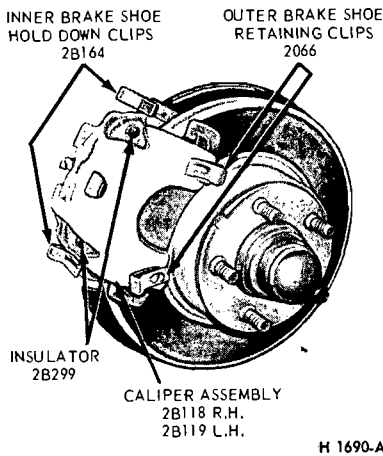

FIG. 1 Disc Brake Assembly— Floating Caliper
The disc brake consists of a ventilated rotor and caliper assembly. The caliper used is a single piston floating caliper (Fig. 1).
On Ford, Mercury, Meteor, Continental Mark III, Lincoln Continental and Thunderbird models a metering valve, in the hydraulic line between the differential valve and the front wheel disc brakes, prevents the front brakes from applying until approximately 125 psi is obtained in the system (Fig. 1). This delaying action is required to prevent the front brakes from performing all the braking action on low speed stops and thereby increasing the rate of lining wear, and from locking on ice and slippery pavement.
3. Remove the inner shoe hold down clips (Fig. 1).
4. Place a small screwdriver under the outer shoe retaining clip tang and lift away from the pin groove and slide the clip from the shoe retaining pin. Remove the other brake shoe retaining clip. See Fig. 1 and remove the outer brake shoe.